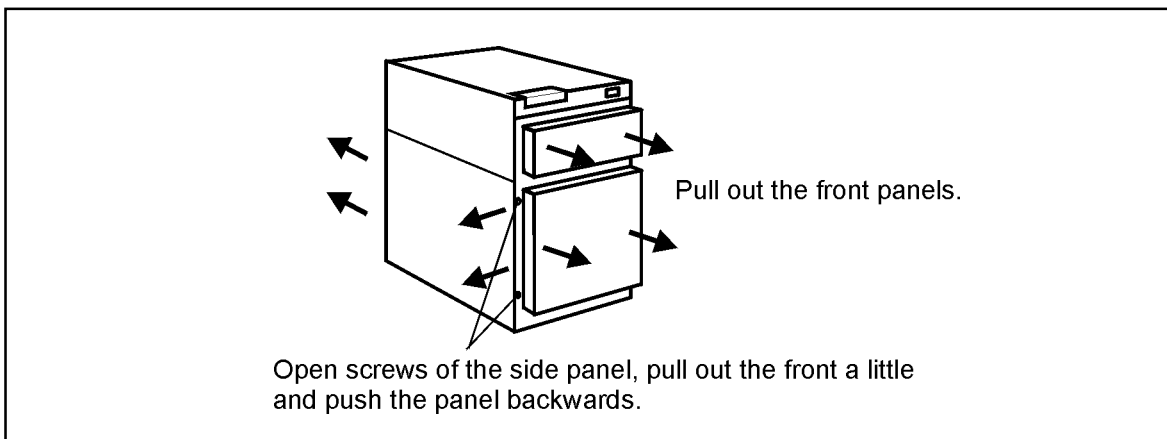

Fig. 4a. Removing the front panels and opening the left side panel.
6. Remove the front panels and open the left side panel (Fig. 4a).
- Remove the front panels of UPS. Fig. 4a.
- Remove the front panels of the UPS. Fig. 4a.